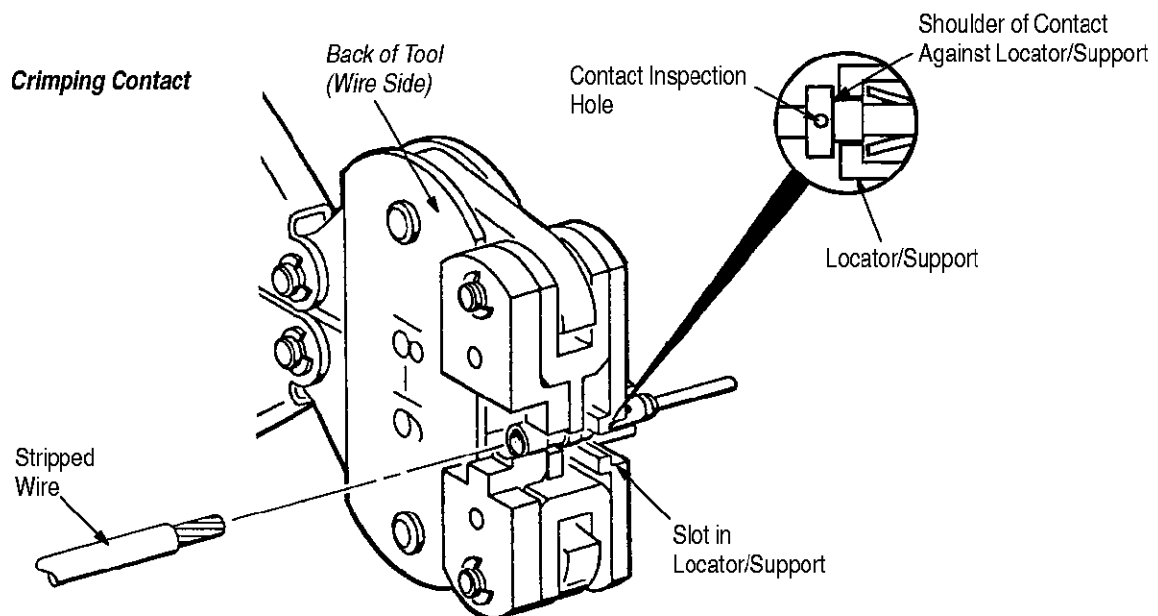

Figure 3
The following procedure applies to both socket and pin contacts. Refer to Figure 3, and proceed as follows:
**NOTE** *The contact inspection hole should be positioned as shown in Figure 3.*